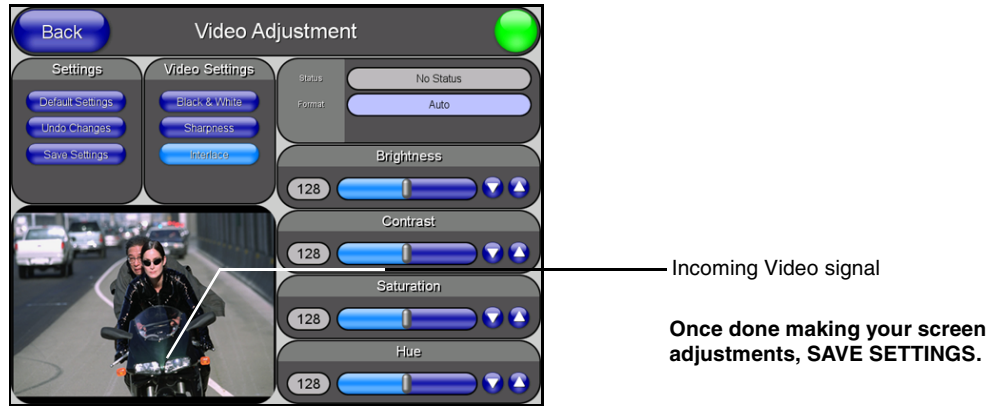

FIG. 136 Video Adjustment page (showing default values)
- Click on the **Streaming Adjustment** button to launch the Streaming Video Adjustment page and confirm that the panel is at least receiving the signal (FIG. 136).